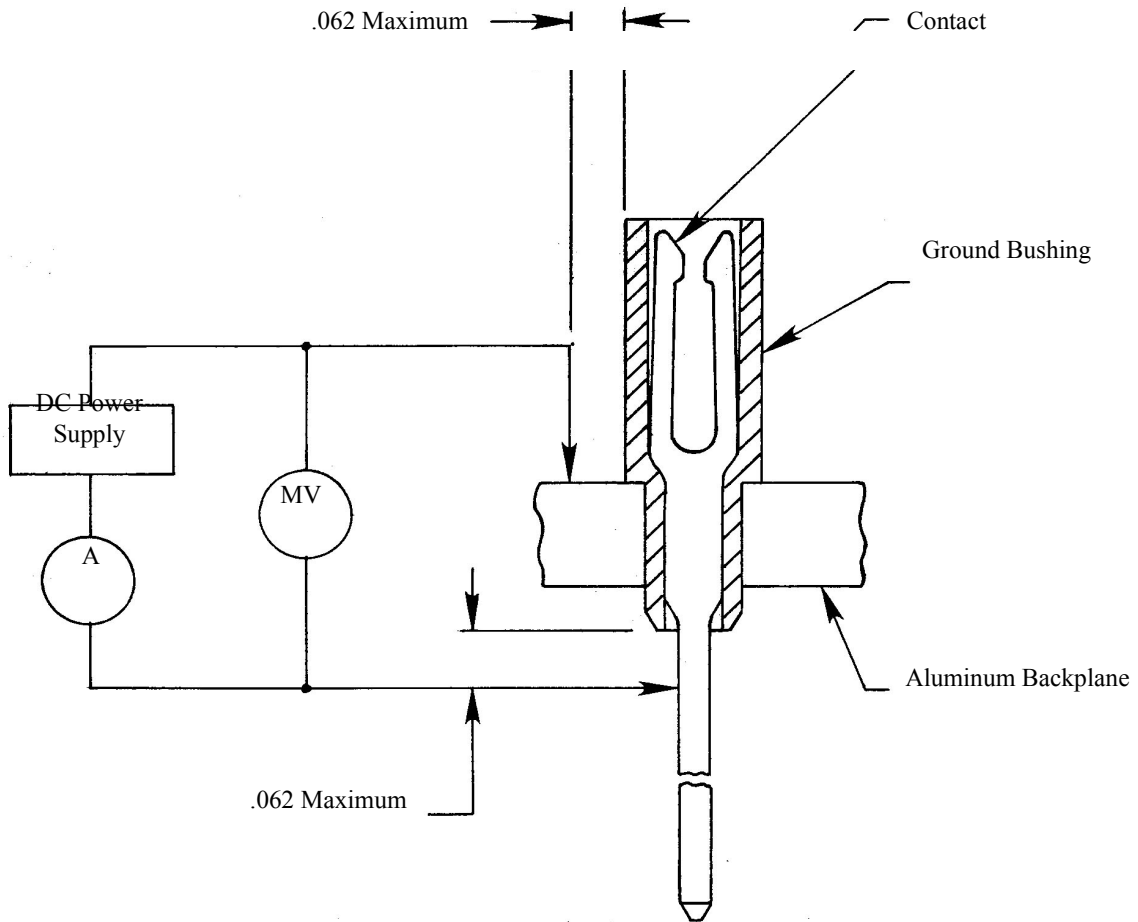

Figure 2
- 2.2.8.4 To ensure that a reliable ground connection has been made after the contact installation of the ground bushing assembly, it is recommended that the backplane to contact resistance be measured (see Figure 2). At a test current of 3 amps, the maximum allowable resistance is 18 millivolts (see Specification NAVORD WS6157B).